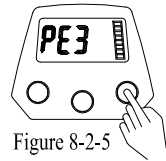

Figure 8-2-5
5. After selecting the line number, press "RESET" to confirm that the screen appears 0.0 and enters the winding state (Figure 8-2-5).